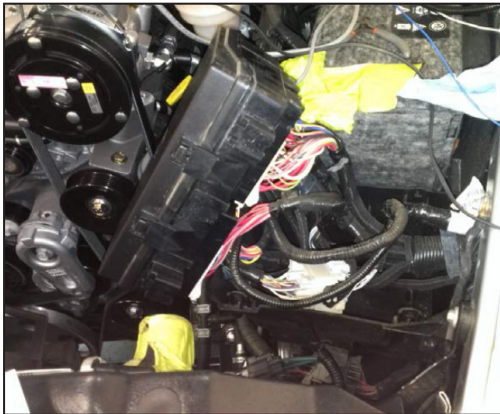

Figure 38 — Accessing PDC connectors
- Pull the housing up and to the passenger side of the truck (Figure 38).